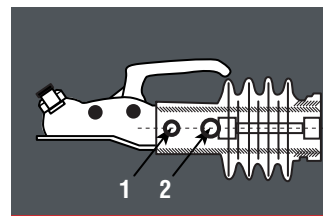

Fig 4
Before you start to remove the existing fixing bolts, please note that on most over-run assemblies, the shock absorber is secured by the fixing bolt (Fig 4/Item 2).
- b Loosen self-locking nut from hexagon cap bolt (Fig 4/1 Fig 4/2)
- c Push or knock out hex. cap bolt (Fig 4/Item 1)